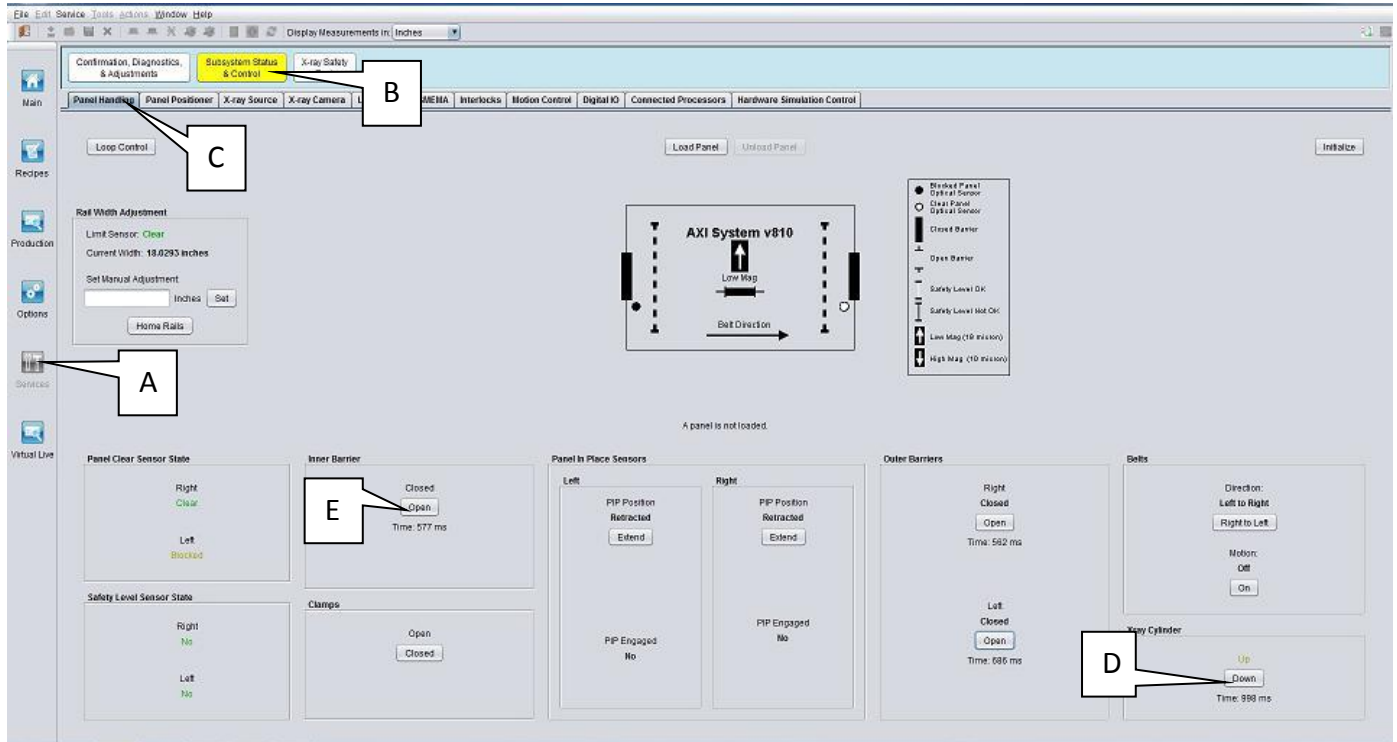

Figure 17
21. Go to Panel Handling tab, ensure tube cylinder in Up position, manually trigger Inner Barrier Open/Close few times, and check for the shutter plate movement as Figure 17.